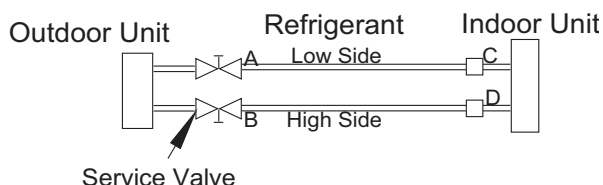

Fig. 13 – Service Valve
- 1 Completely tighten all flare nuts and connect manifold gage charge hose to a charge port of the low side service valve (see Fig. 13).